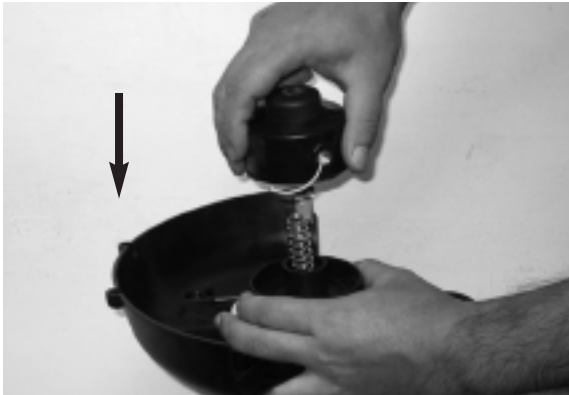
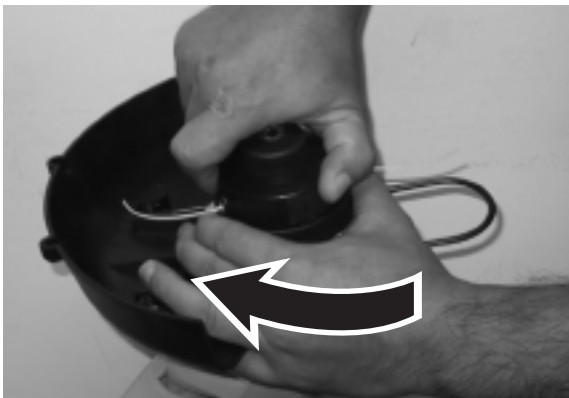

Fig. 27
Fig. 28
8. Make sure to insert the spring, assemble the spool and spool carrier back onto the trimmer. To do so, push the head on and turn it clockwise until it locks. (Fig. 27 and Fig. 28)